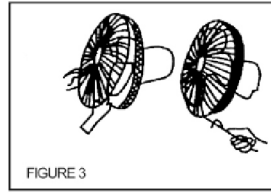

FIGURE 3
3. After put the center piece of the front grille upright, slip the ring of the front grille into the another slot of the plastic rim, tighten the bolt in the joint of the rim by a screwdriver. (FIGURE 3)